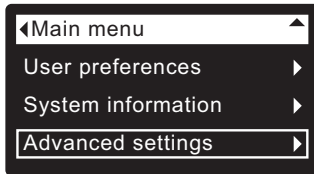

FIG. 81
1. From any of the rolling status screens, press the SELECT (O) button to display the **Main menu**.
2. Press the DOWN (▼) button to scroll through the menu options until **Advanced settings** is highlighted (See Figure 81).